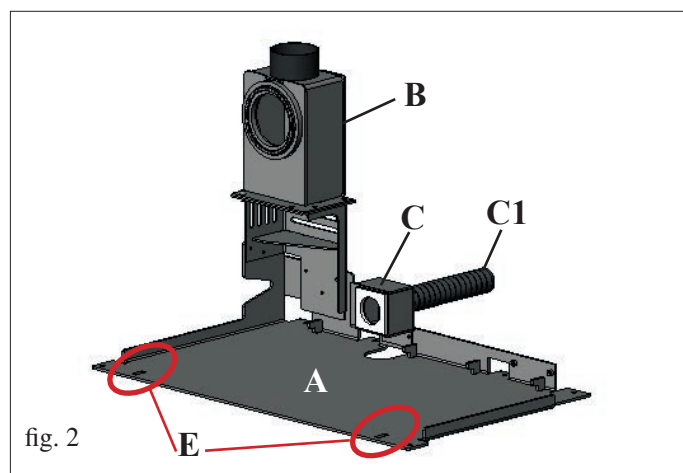
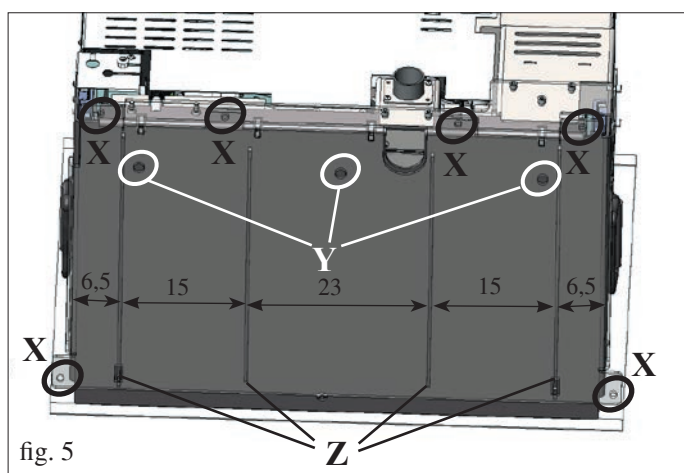
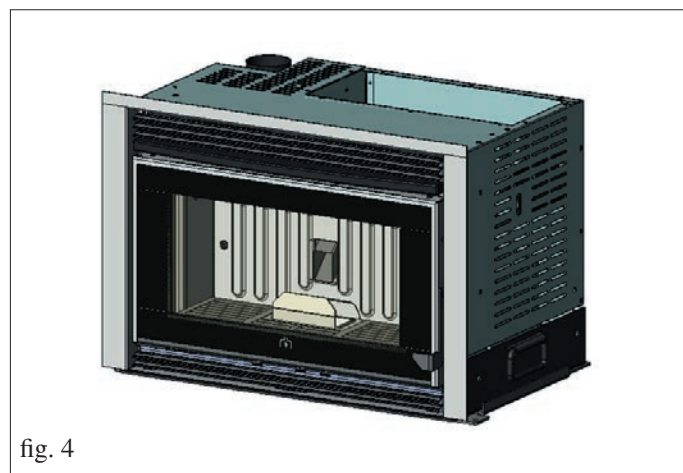

fig. 2
fig. 5
fig. 4
- Secure the base plate (A – Fig. 2) on the base using bolts through the holes positioned on the perimeter of the plate (X – Fig. 5).
Alternatively, to secure the above plate, you can use the existing holes in the same base plate (Y – Fig. 5) and countersunk screws (the screw head must not protrude more than 2 mm from the base plate).
The customer can make other holes, being careful not to do so in line with the guides (Z – Fig. 5)
- Replace the insert (Fig. 4) by sliding it on the base plate (A – Fig. 2) until it stops (the insert must fit in the two slots (E – Fig. 2) in the front part of the base plate (A – Fig. 2), taking care that the power supply cord is not crushed between the two plates.
- Open the door and lift the slide lock (F – Fig. 5).